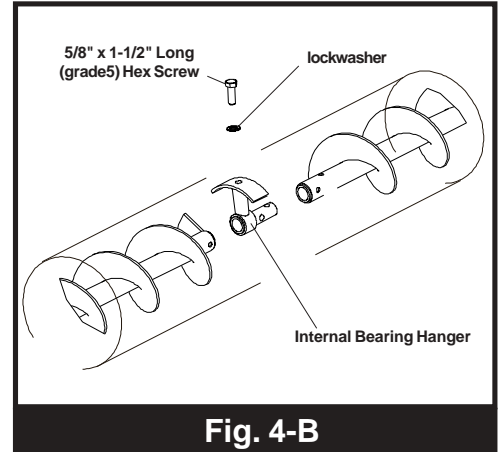

Fig. 4-B
- B. The internal bearing hanger should be placed over the end of the flight connecting stub on the middle auger section. Next, slide the flight section out of the head or upper middle auger housing section. Connect the middle and head flight sections together. Use two (2) 7/16" x 3" long (grade 8) hex head capscrews screws and stover type locknuts. (See Fig. 4-A.)
2. Grab the internal bearing hanger stem through the bearing access area and rotate the bearing until it lines up with the 3/4" hole on the top of the auger housing. (See Fig. 4-B)